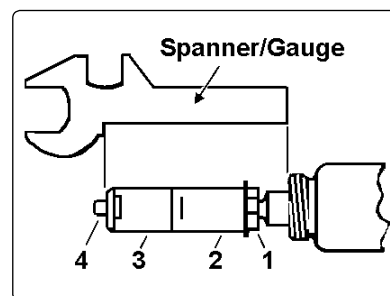

fig. 4
- 4.2.3. Check the jaw stroke by using the supplied spanner/gauge as in fig. 4.